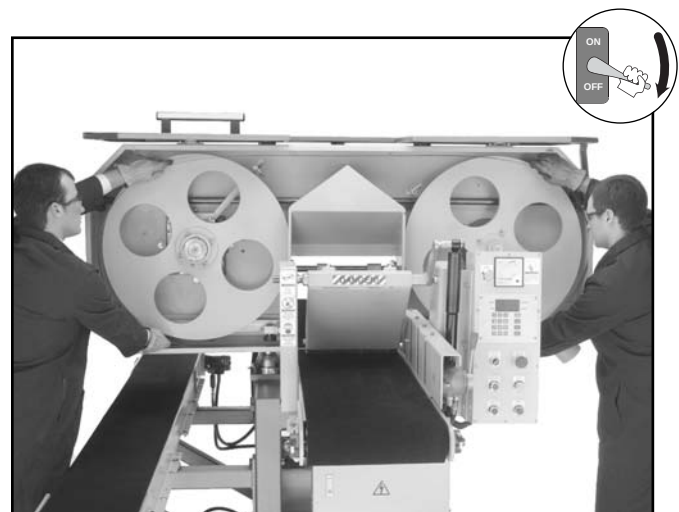

Figure 13. Positioning blade for installation.
3. Hold the blade from each side, and position it in front of the wheels so the blade teeth are facing the front of the machine, as shown in **Figure 13**.